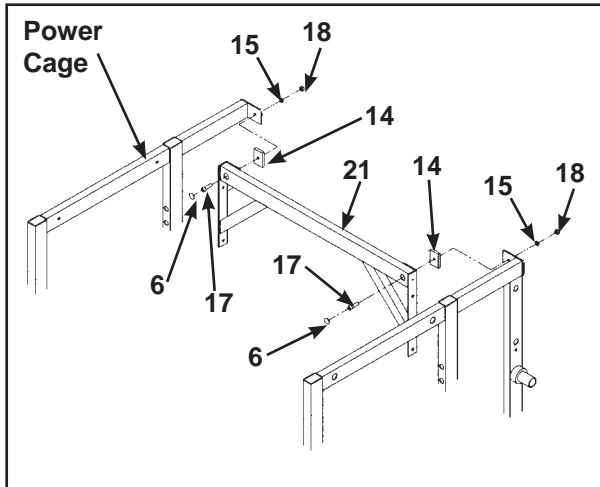

Figure 10
- H. Secure spacer plate (#14) to Power Cage and center brace (#21) using one hex nut .50-13, one lockwasher .50 (#15), one SHCS .50-13 x 1.75 (#18) and one plastic insert 1.19 Dia. (#6). See Figure 10.